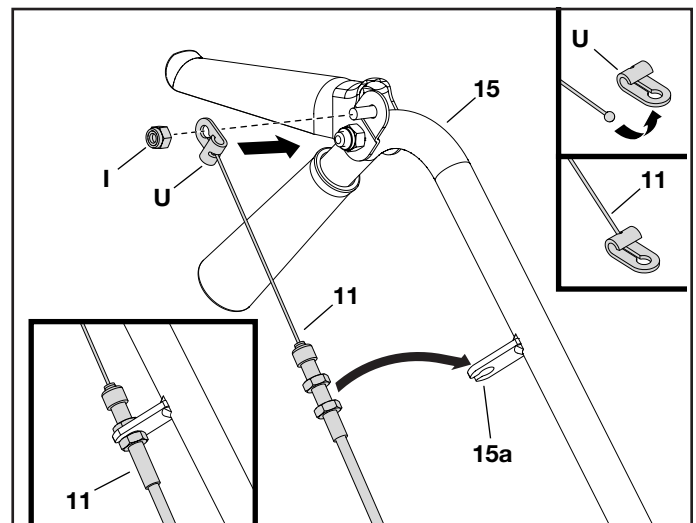

FIGURE 12
STEP 12: (SEE FIGURE 12)
- Insert the other end of the control cable (11) into the bottom of the clevis lanyard fitting (U) and place the cable into the groove as shown.
- Adjust the inner jam nut (J) approximately 3/4" from the outer end of the threaded end
- Insert the control cable (11) into the tab (15a) on the lift handle assembly tube (15) and tighten the two jam nuts (J) on the control cable toward both sides of the tab to secure.
- Secure the clevis lanyard fitting (U) to the lift handle assembly tube (15) using a hex nut (I).
- Secure the clevis lanyard fitting (U) to the lift handle assembly tube (15) using a hex nut (I). Tighten hardware.